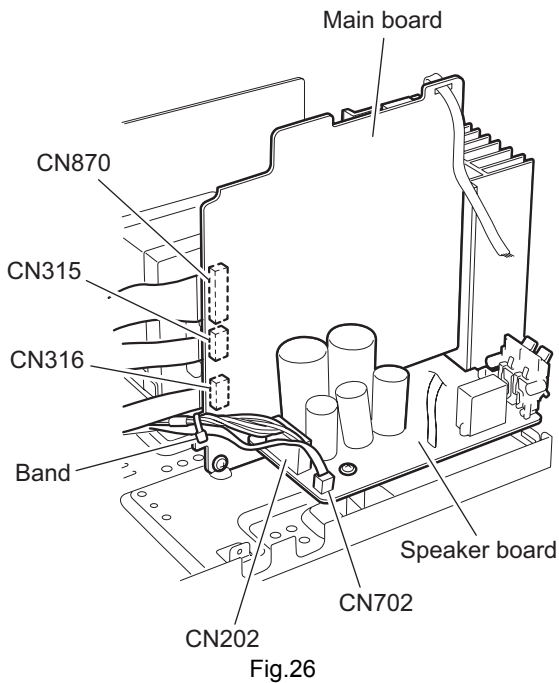

Fig.26
3.1.10 Removing the main board / speaker board (See Fig. 26~29)